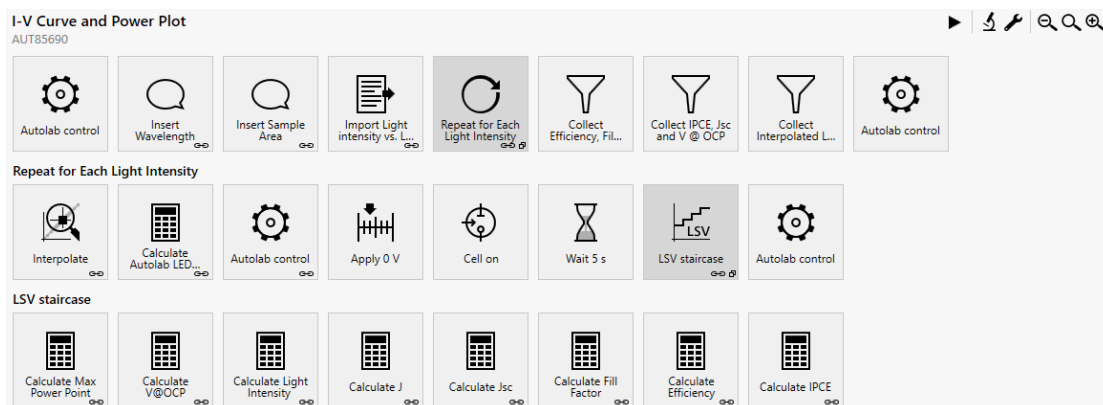

Figure 44 – An example of a procedure used to measure the i/V curve of a cell
Under potentiostatic condition, it is common practice to start the scan at 0 V (short-circuit conditions) and stop the scan when the current becomes zero (open circuit conditions). An example of a procedure for this type of measurement is shown in Figure 44.
- A *Repeat for each value* command, with the set current values defined in the values sequence of the repeat command can be used in combination with the *Autolab Control* command. This will repeat the whole measurement sequence for each pre-defined value (see Figure 44).
- The *Calculate signal* command can be added to the sequence in order to rectify the WE(1).Power signal (which is negative in the raw measurements). This is also shown in Figure 44.